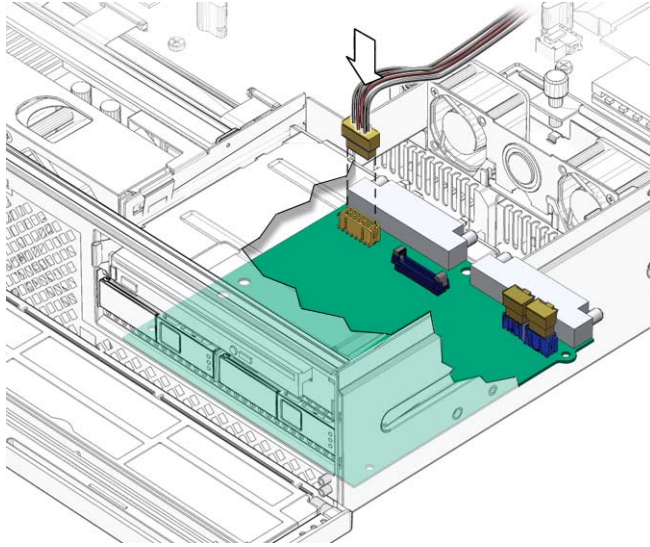

FIGURE 3-33 Connecting the Fan Assembly Cable
- 3. Reconnect the system fan assembly cable to connector J3 on the power board (FIGURE 3-33).**